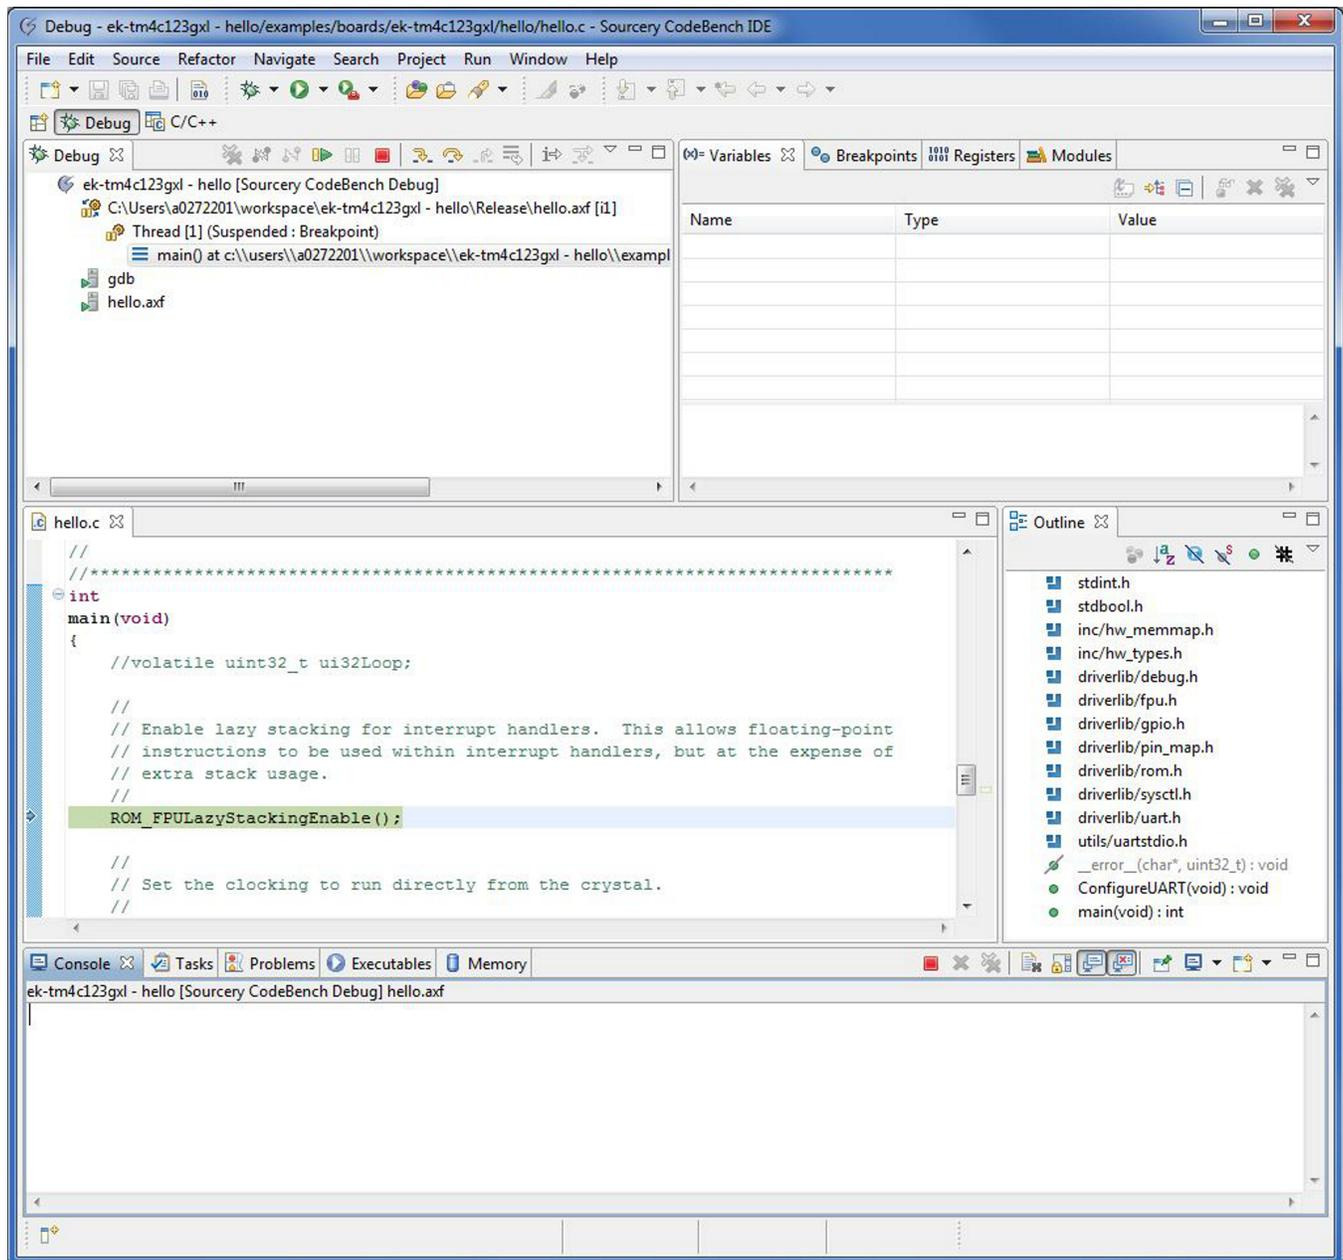

Figure 6.
2. If a dialog box asks whether you want to switch to the debug perspective (or view), select Yes and, optionally, check the box indicating you wish to switch automatically in the future. When the image download is complete, the screen similar to the one shown in Figure 6 should appear.